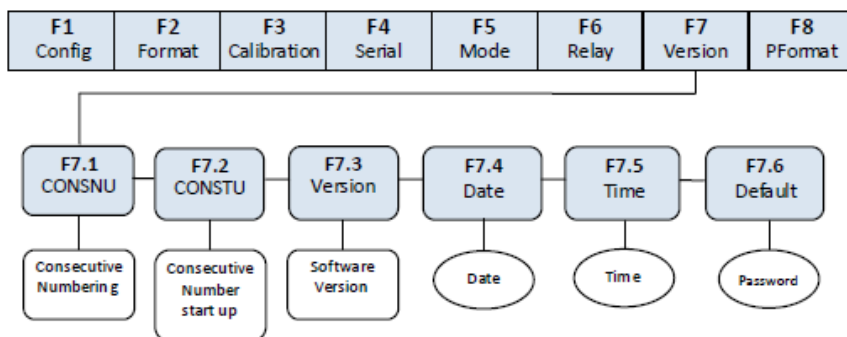

Fig. 15.2.1 F7(Ver) Menu
- (1) Turn on the SW2 switch to set indicator to the Configuration mode. Display shows "F1".
- (2) Press  until display shows "F7" (see Fig. 15.2.1). Press  to go to F7 Menu. Display shows "F 7.1". Press  twice until display shows "F7.3".
- (3) When indicator shows "F7.3", press  again, display shows the current software version "XX.XX". Software version cannot be edited.
- (4) Press  to return to F7.3 Menu. Display shows "F7.3".
- (5) Turn off the SW2 switch to exit from Calibration mode and enter into Weighing Mode.
- (2) Press  until display shows "F7" (see Fig. 15.2.1). Press  to show "F7.1". Press  until display shows "F7.6".